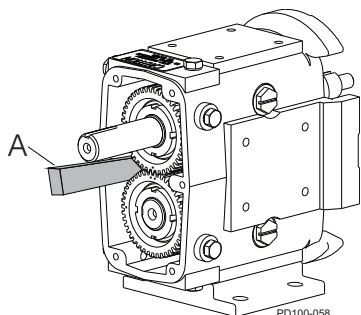

Figure 70 - Block Shaft Rotation
1. Prevent the shafts from turning by placing a wedge between the gears (Figure 70, item A).